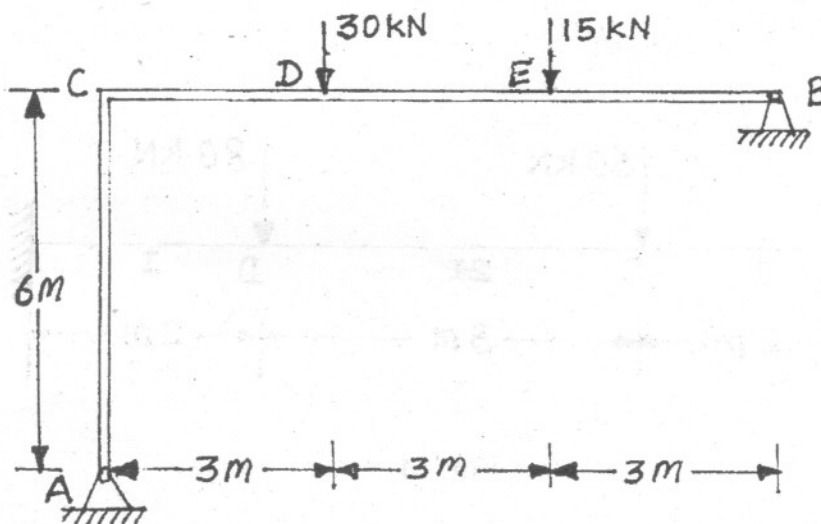

Fig. 6
- (b) Determine the reaction components and draw the bending moment diagram for the frame loaded and supported as shown in Fig. 6. [8]